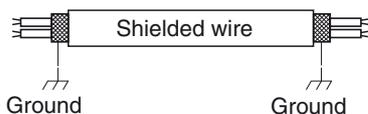

Fig. 4-6
- Use shielded wires for inter-unit control wiring (c) and ground the shield on both sides, otherwise misoperation from noise may occur. (Fig. 4-6)